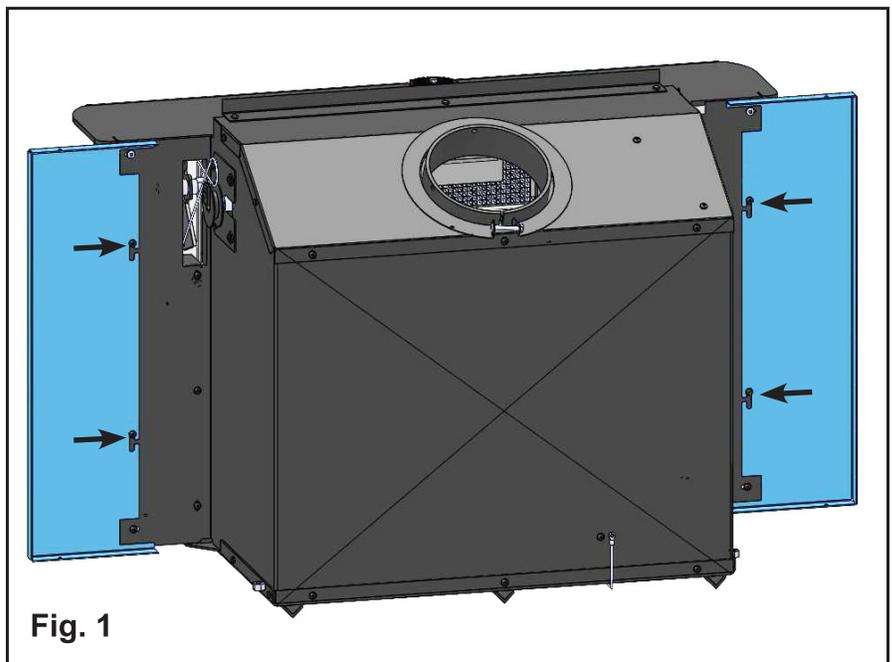

Fig. 1
3. Install the left and right shroud side panels onto the unit by sliding them inward onto the x4 protruding screws on the back of the firebox, then slide the panels down into the key hole notch (**Fig. 1**). Once the side panels are in the correct position, fully fasten the x4 screws.